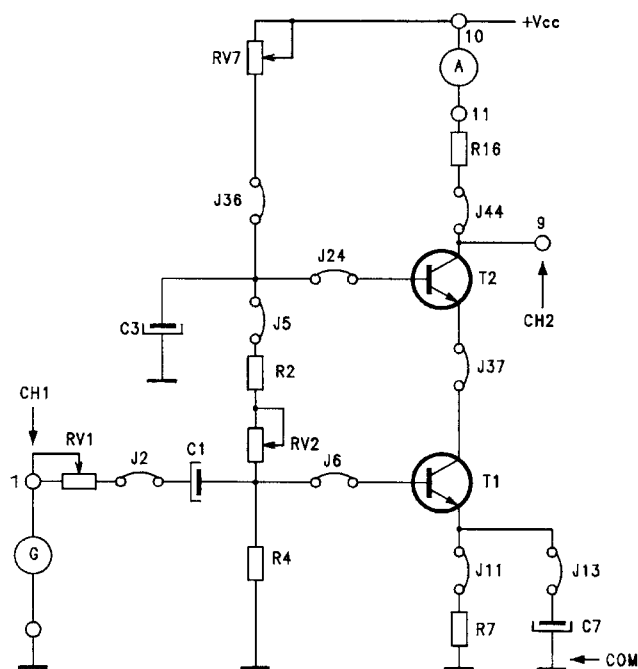

fig.B27.5
- Insert jumpers J2, J5, J6, J11, J13, J24, J36, J37, J44 and the instruments to produce the circuit of fig.B27.5.